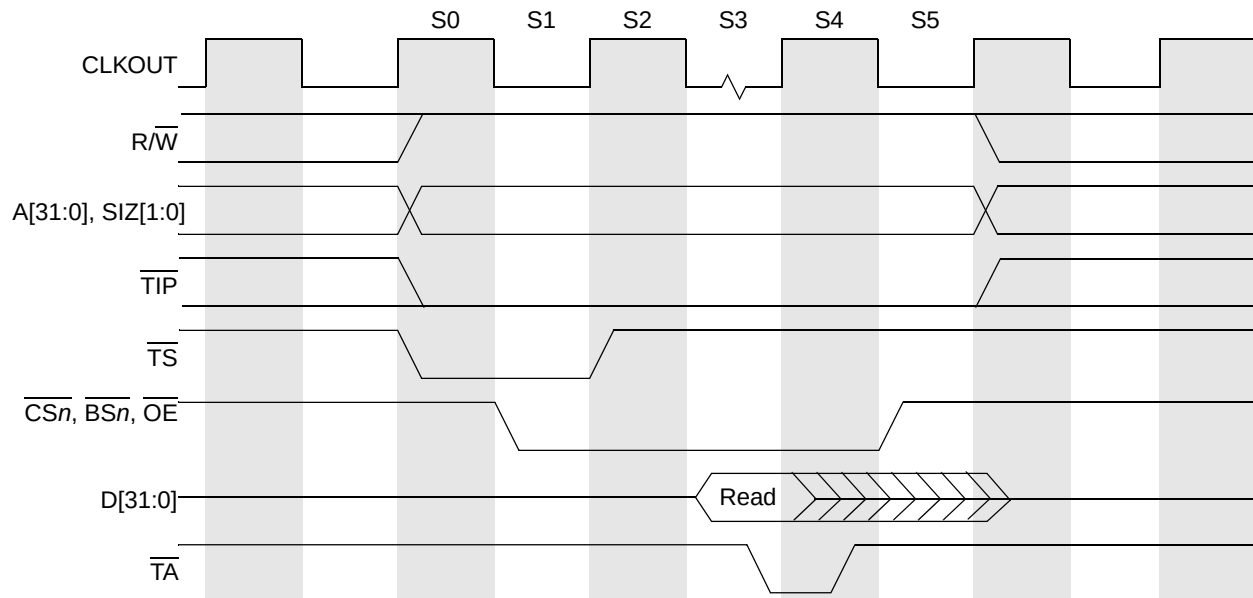
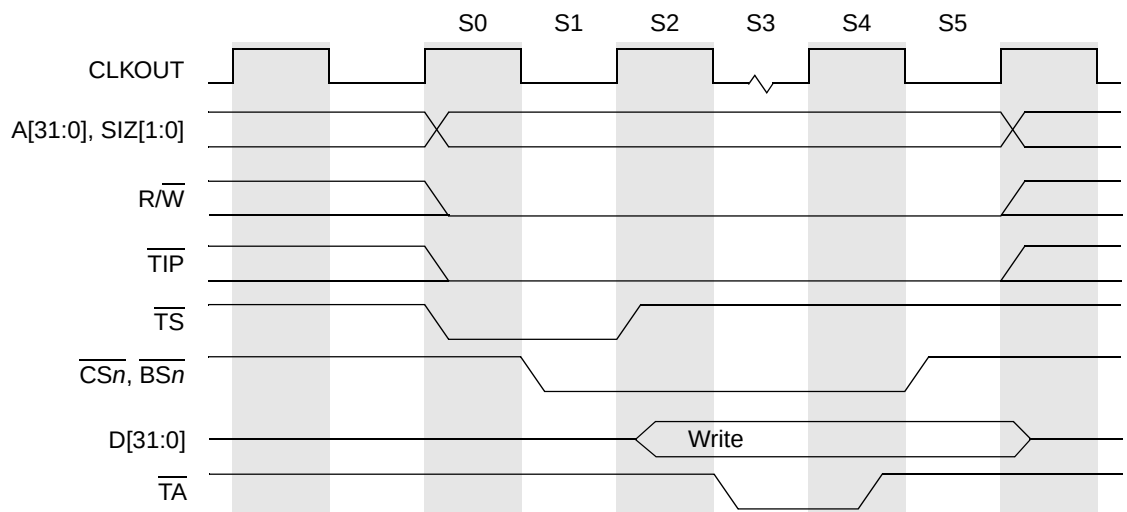

Figure 13-6. Basic Read Bus Cycle
Figure 13-8. Basic Write Bus Cycle
3. The last clock of the bus cycle uses what would be an idle clock between cycles to provide hold time for address, attributes and write data. Figure 13-6 and Figure 13-8 show the basic read and write operations.
The read cycle timing diagram is shown in Figure 13-6.
The write cycle timing diagram is shown in Figure 13-8.